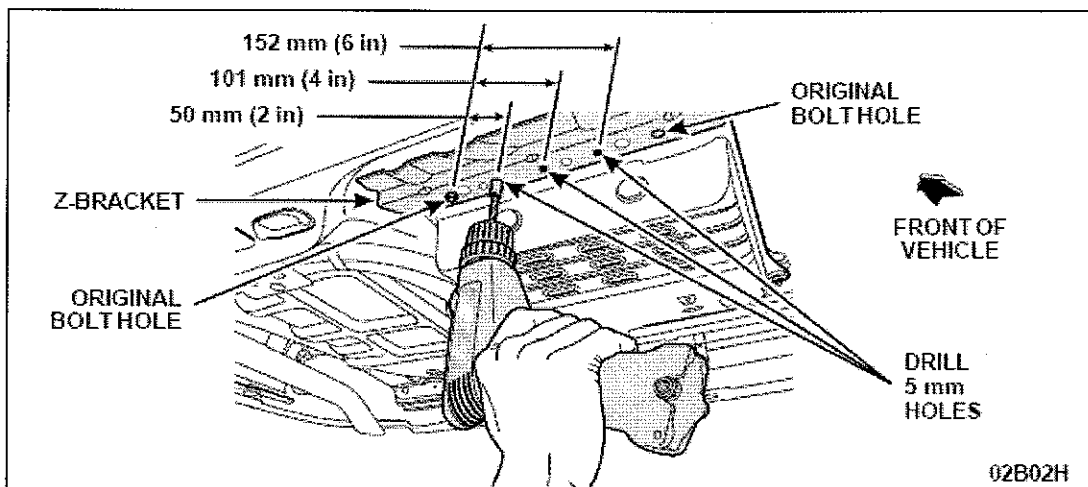

FIGURE 8
10. **CAUTION: DO NOT** drill through the trunk floor when drilling the rivet holes. Place a drill stop or an abundance of tape 12 mm (1/2-inch) from the tip of the drill bit. Reinstall one of the removed bolts to hold the canister securely, then drill the three, 5 mm (13/64-inch) rivet holes through the Z-bracket and the evaporative emissions canister mounting flange. See Figure 8.